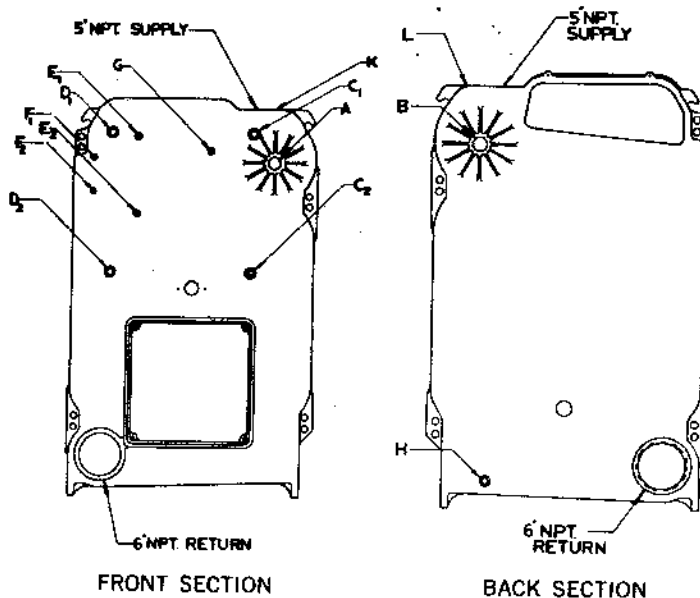

FIGURE 6
2. Secure a drain cock (not supplied) to the boiler or boiler piping (size to ASME Code requirements). Refer to FIGURE 6 and the CONTROL TAPPING TABLE.
5. Plug all remaining boiler tappings, including the returns. Refer to FIGURE 6 and the CONTROL TAPPING TABLE.
8. Drain the entire boiler and remove plugs from those tapings which will be used for controls or accessories. Refer to FIGURE 6 and the CONTROL TAPPING TABLE.